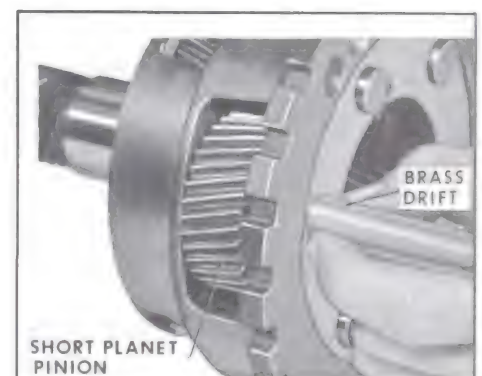

Figure 5-257
3. Start with the short planet pinion first. Insert Brass Drift into front of carrier. See Figure 5-257.